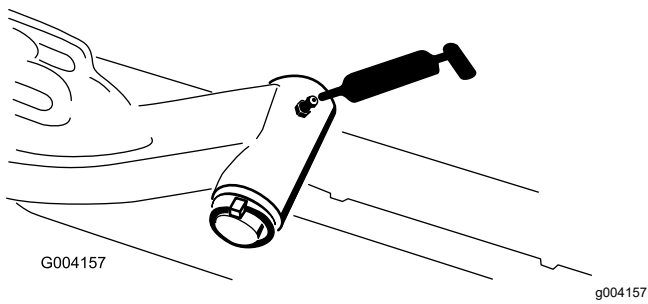

Figure 104
- Lift-arm-pivot shaft (1 each) (Figure 104)